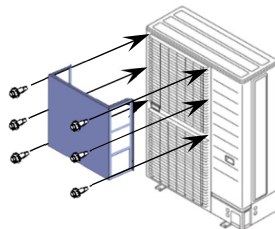

Figure 8
(1) Center the wind baffle both vertically and horizontally over the upper fan cover as shown in Figure 8. Make sure that the wind baffle does not cover the service panel.
(2) Mark the screw hole positions in each flange by drilling.
(3) Using the self-tapping screw provided, locate and secure the wind baffle as shown in Figure 8.